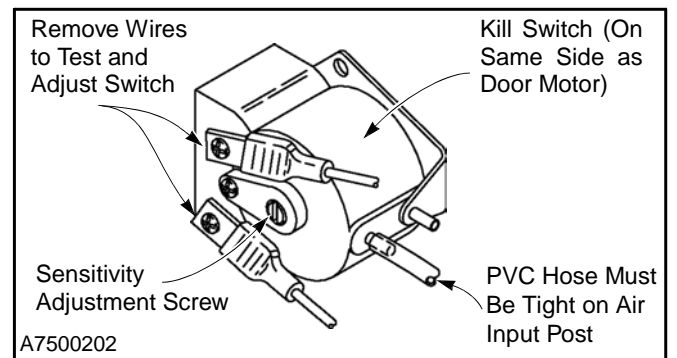

Figure 47
1. Remove the wires from the contact terminals and attach an ohmmeter across the two terminals. (See Figure 47.)